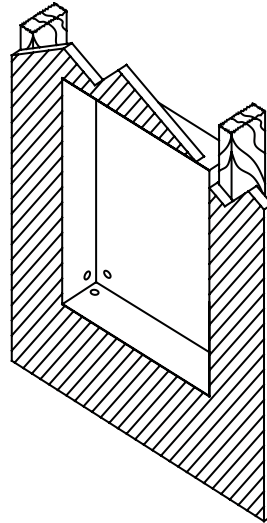

FIG. 1
2. Must be installed with front edge flush with finished wall surface. See figure 1. Remove knockout in wall box for power source, and install cable clamp.